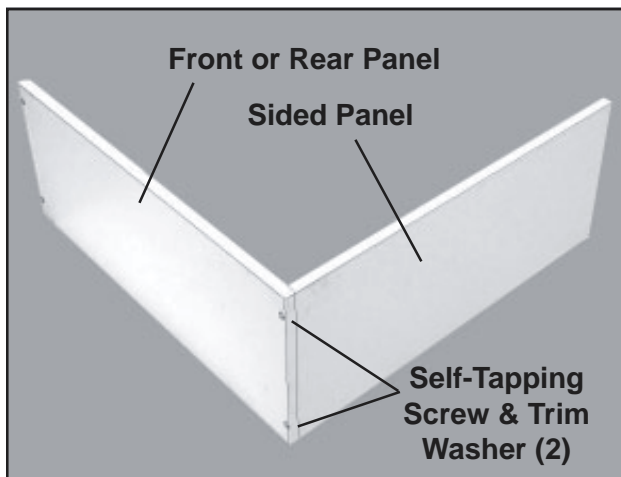

Figure 11. Joining Two Collar Panels
1. Join one front or rear panel to one side panel with two self-tapping screws and trim washers (Figure 11).